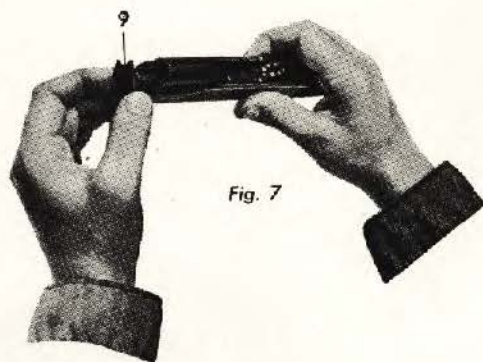

Fig. 7
**Replace the barrel bushing.** Line up the ridge on the side of the bushing with the space between the barrel and recoil spring housing. Push the bushing all the way in and turn it clockwise as far as it will go. (See fig. 7)